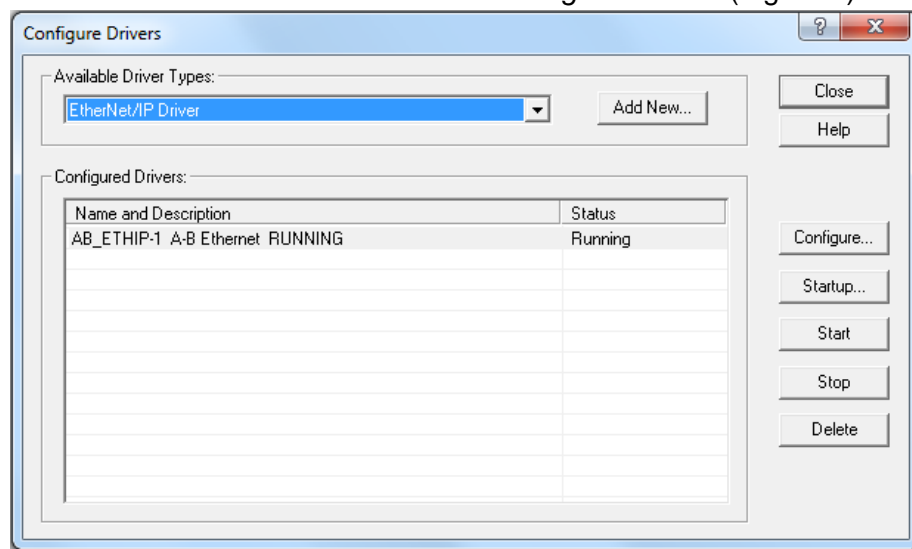

Figure 1: RSLinx Classic configure drivers
- 2) Once opened select *Communications* and then *Configure Drivers* (Figure 1).